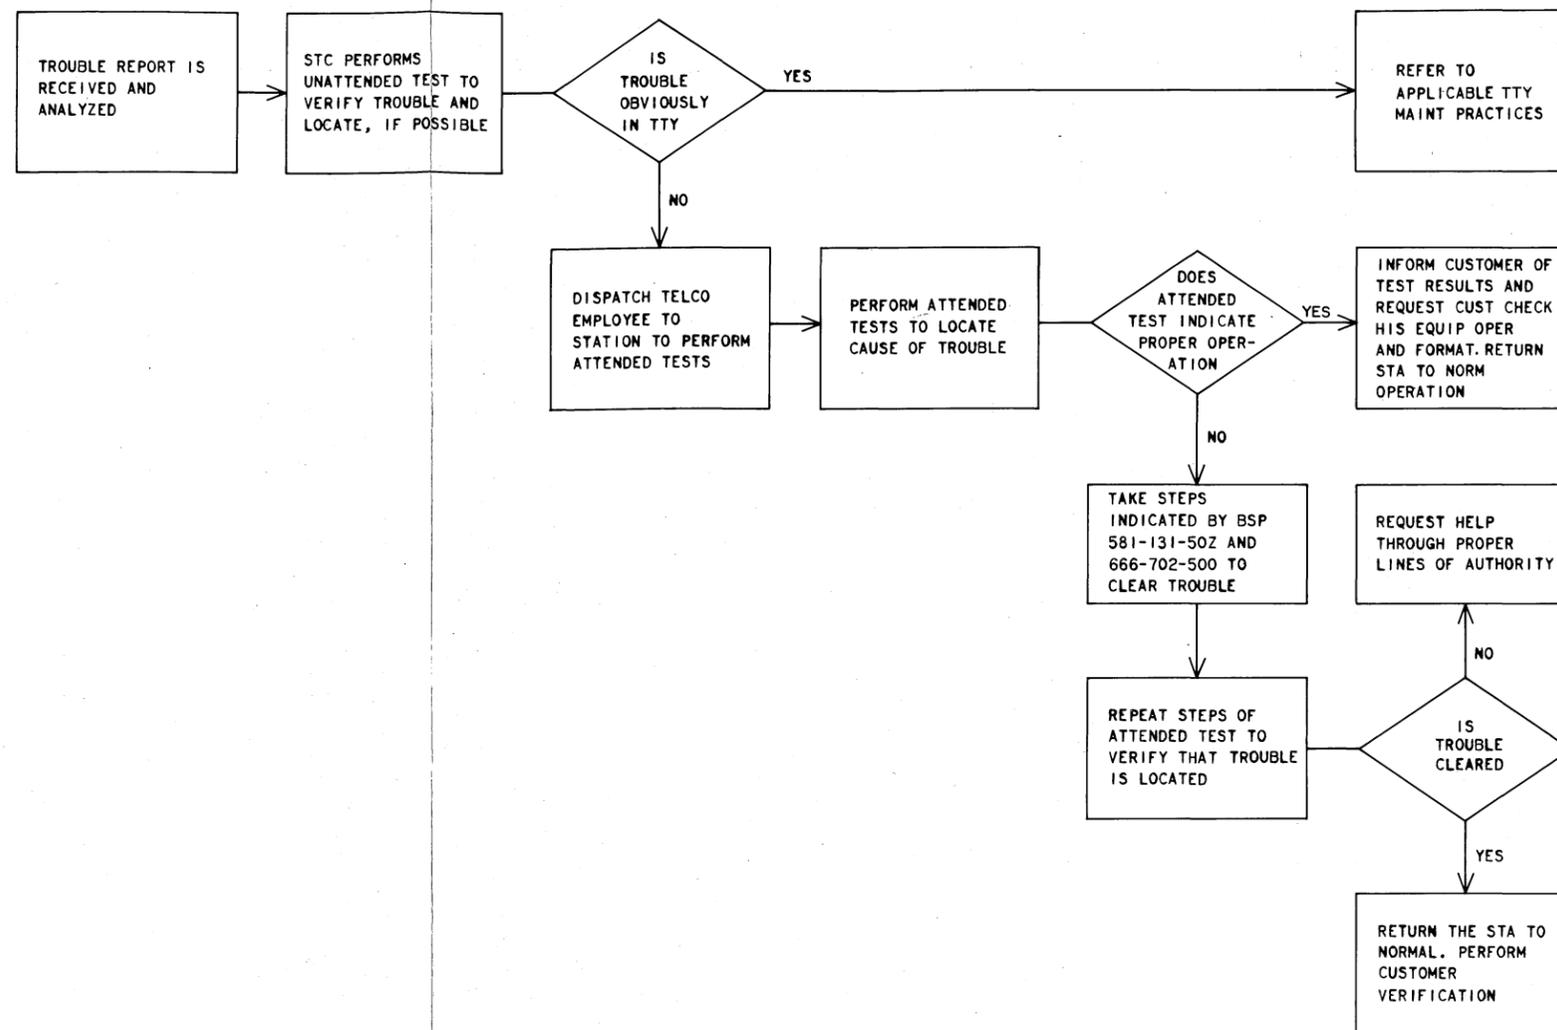

Fig. 8—Maintenance Flowchart—85A2 DSCS Station
5.01 Maintenance of the 85A2 DSCS station should be performed in accordance with the flowchart shown in Fig. 8. This chart is provided as a guide for an organized trouble locating procedure with a minimum amount of time spent to locate a reported trouble condition.